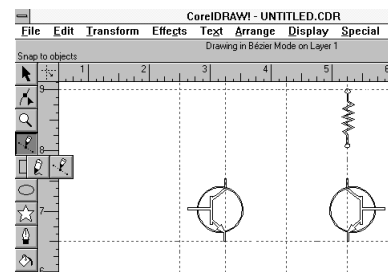

Fig. 17
**34.** We will now draw connecting lines. To do this we select the pencil tool from the tool bar. See **Figure 17**. Click on the pencil tool icon with the mouse. Place the cross hairs on the emitter lead of the transistor at the intersection of 5 1/4 inch vertical line and the 6 1/2 inch horizontal line. While simultaneously holding down the CTRL key on the keyboard, click the mouse once and move the crosshairs down vertically to the intersection of the 5 1/2 horizontal and 5 1/4 vertical guidelines and click the mouse once.